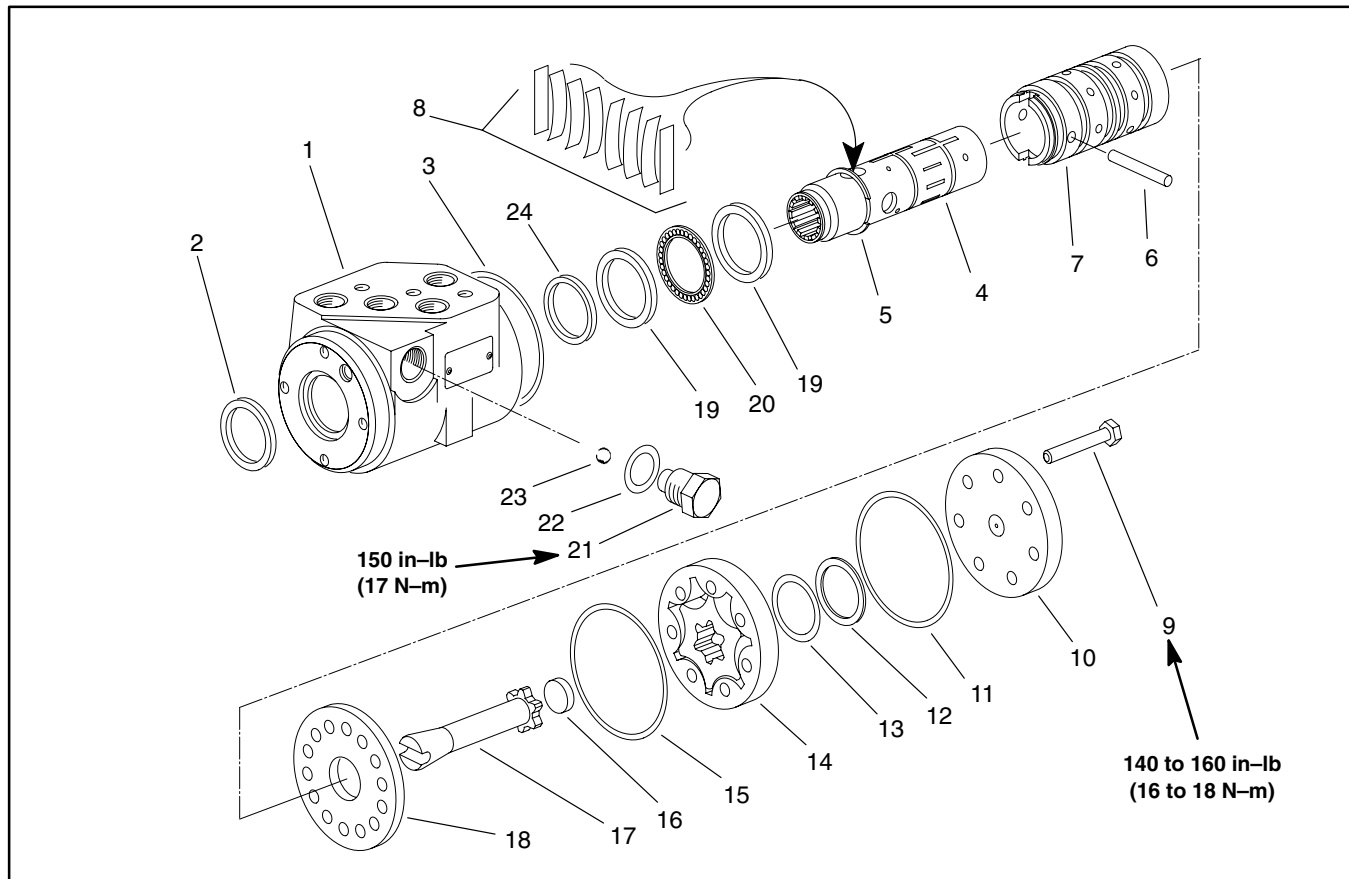

Figure 21
Disassembly (Fig. 21)
2. Remove end cap, geroter, spacer, geroter drive, wear plate, seal ring, and o-rings (Items 11, 13, and 15) from housing (Fig. 21).
5. Remove the thrust bearing and bearing races (2).
Reassembly (Fig. 21)